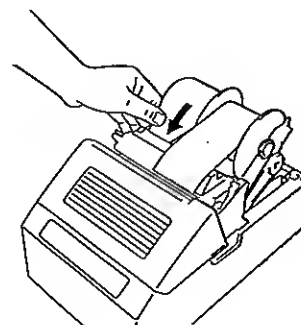

Fig. 3
- 4) Insert the paper end into the paper inlet until it stops, then feed the paper by pressing the RECEIPT FEED Switch. (Fig. 3)